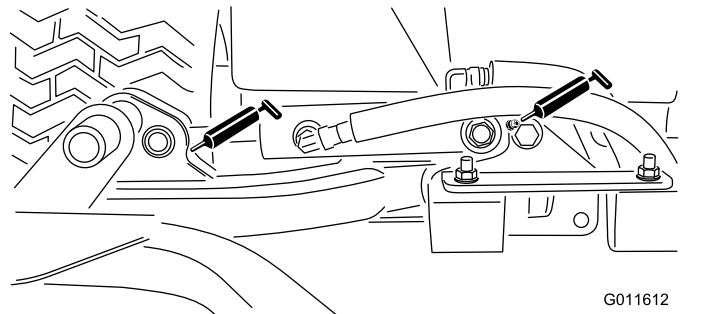

Figure 61
- Cutting unit lift-arm cylinders (2 each)—Figure 61
- Lift-arm pivots (1 each)—Figure 61